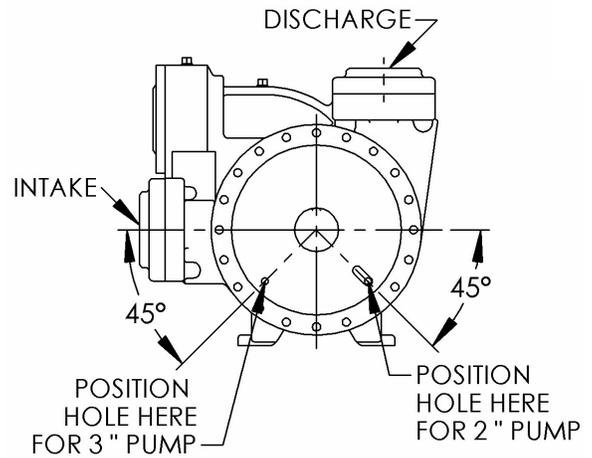

Figure 13 - Disc Relief Hole Location (2 and 3-inch pumps)
Install the disc (71) on the inboard side of the pump with the seal cavity facing outward and the disc relief hole located as shown in Figure 13.
Place the disc (71) against the head (20) with the seal cavity inward and the disc relief hole located so that when the head is mounted on the pump with the "Blackmer" name in an upright position, the disc relief hole will be at the pump intake, (see Figure 13). Install and tighten the disc machine screws and lockwashers (71A and 71B). The drive tangs of the seal jacket should protrude through the center hole of the disc.